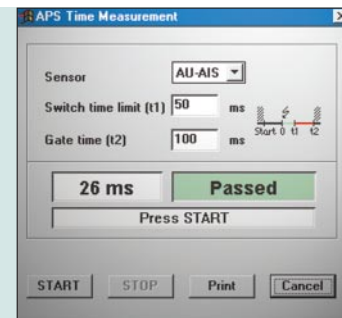

figure 7 APS time measurement
**Ring testing – APS time measurement (figure 7)**